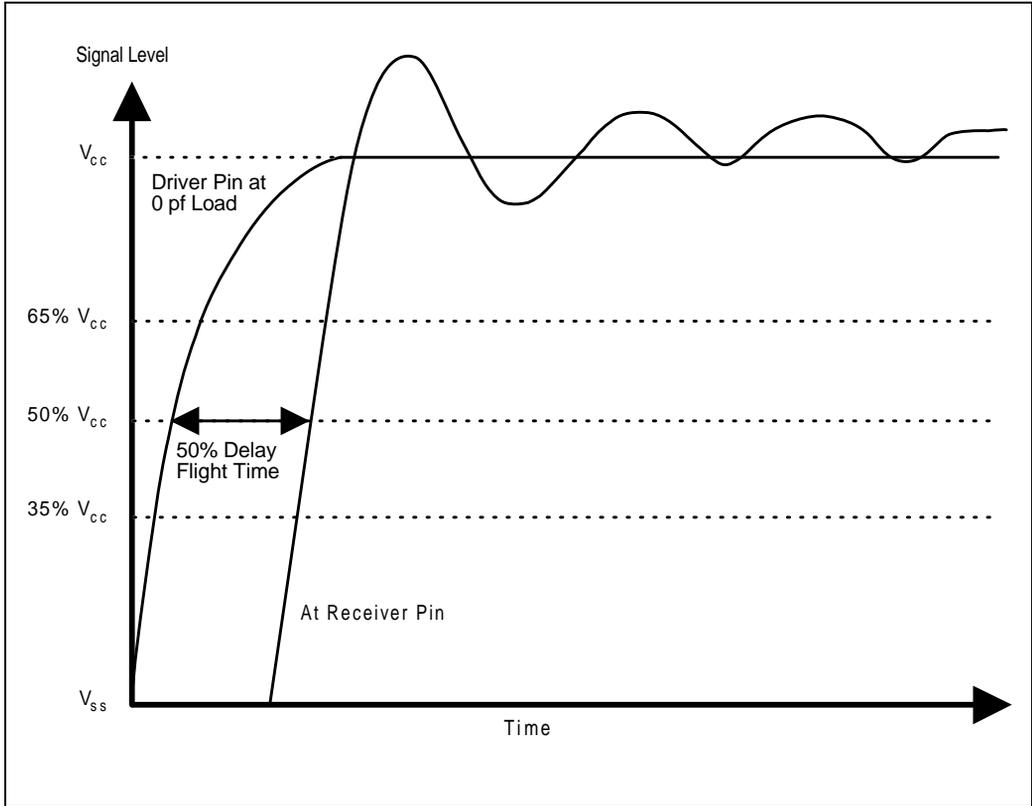

Figure 7-8. Vcc Measurement of Flight Time
29. This is a flight time specification, that includes both flight time and clock skew. The flight time is the time from where the unloaded driver crosses 1.5V (50% of min  $V_{CC}$ ), to where the receiver crosses the 1.5V level (50% of min  $V_{CC}$ ). See Figure 7-8. The minimum flight time minus the clock skew must be greater than zero.